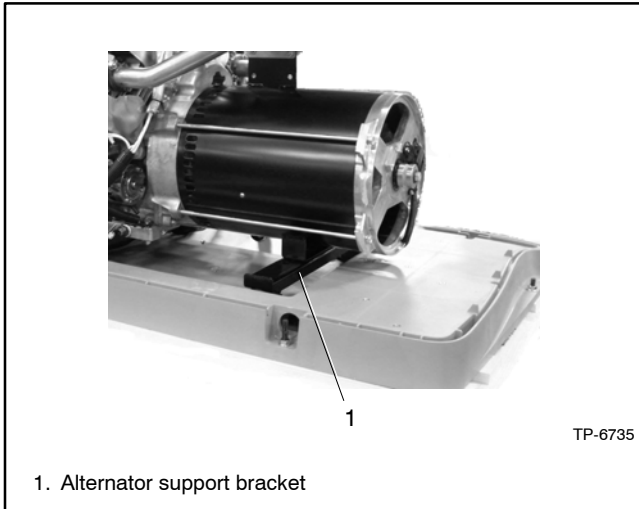

Figure 7-22 Alternator Support Bracket (RESA shown)
21. Remove the alternator support bracket from the alternator shell. See Figure 7-22.